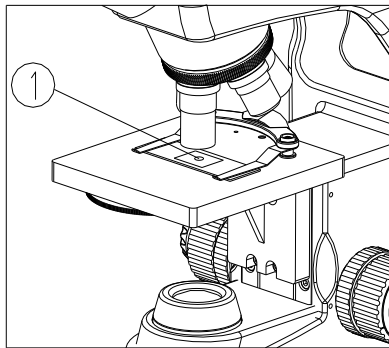

Fig. 12
2. Place a drop of oil ① on the specimen observed (see Fig. 12)